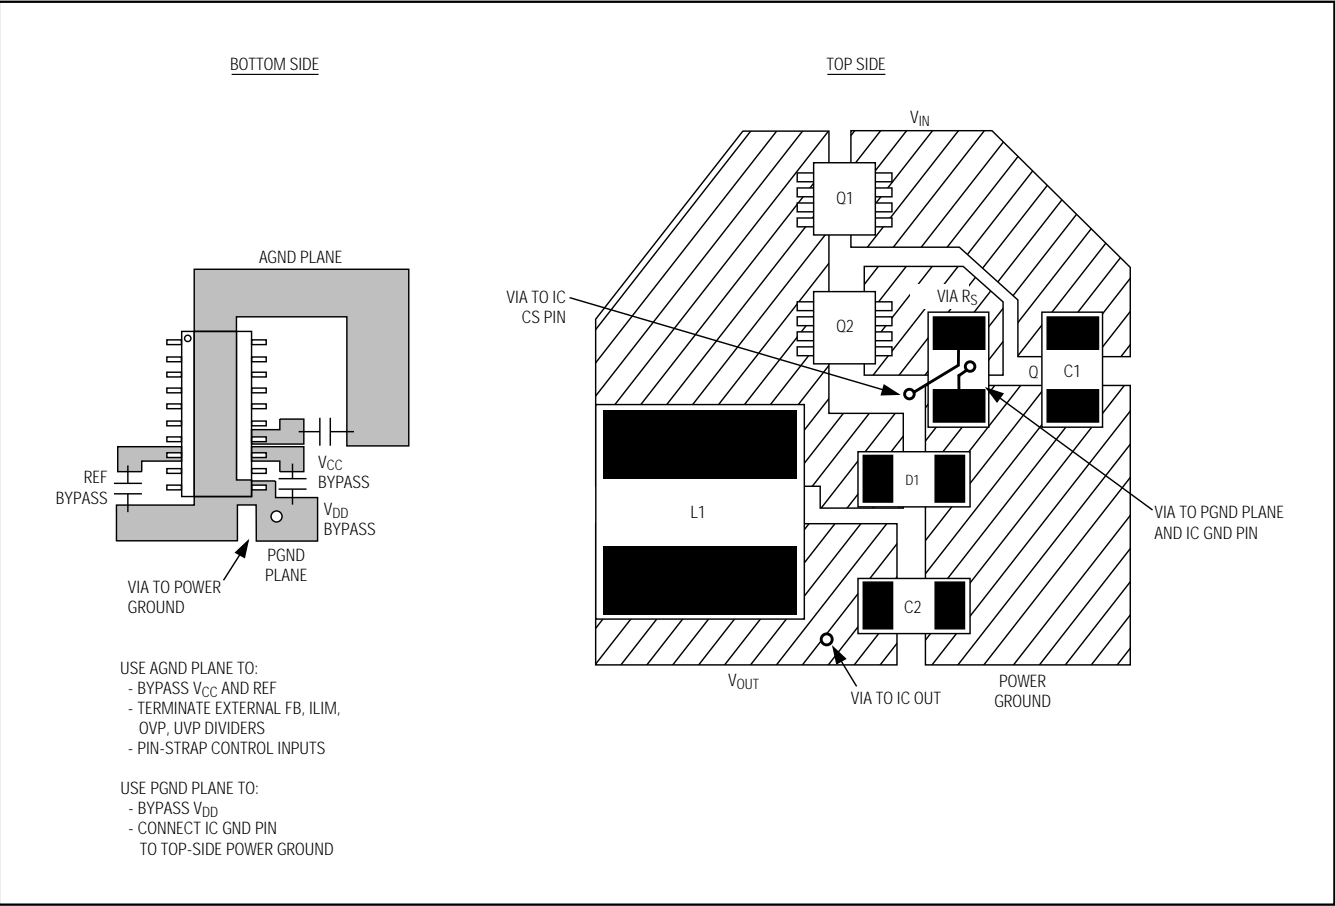

Figure 9. Power-Stage PC Board Layout Example
Careful PC board layout is critical to achieving low switching losses and clean, stable operation. The switching power stage requires particular attention (Figure 9). If possible, mount all of the power components on the top side of the board, with their ground terminals flush against one another. Follow these guidelines for good PC board layout:
- 4) Make the DC-DC controller ground connections as shown in Figure 9. This diagram can be viewed as having two separate ground planes: power ground, where all the high-power components go; and an analog ground plane for sensitive analog components. The analog ground plane and power ground plane must meet only at a single point directly at the IC.